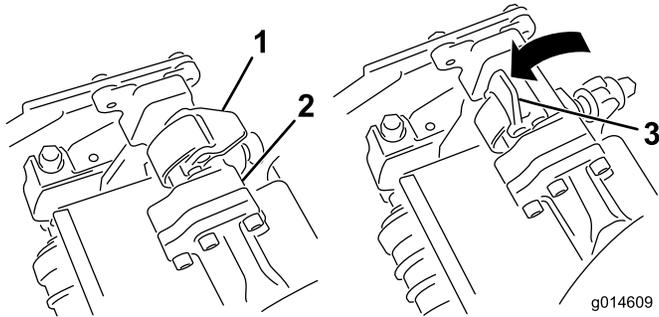
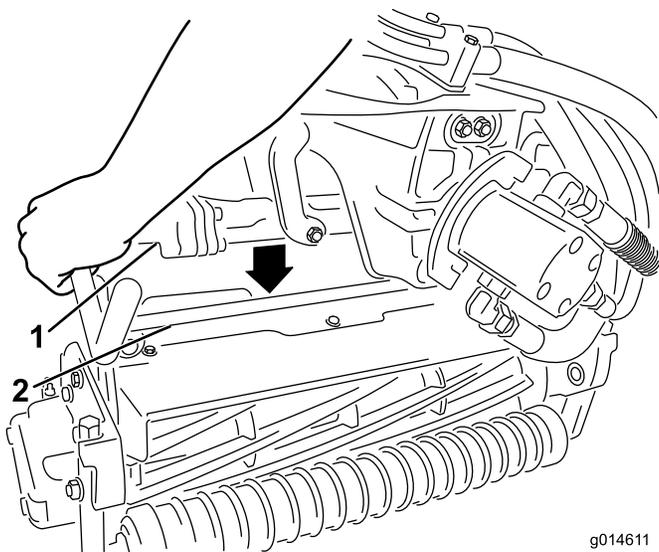

Figure 12
Figure 13
- With the latches on the suspension-arm bar pointing up (i.e., open) (Figure 12), push the suspension arm down so that the bar fits over the bar across the top of the cutting unit (Figure 13).
- Close the latches down and around the cutting-unit bar and lock them in place (Figure 12).